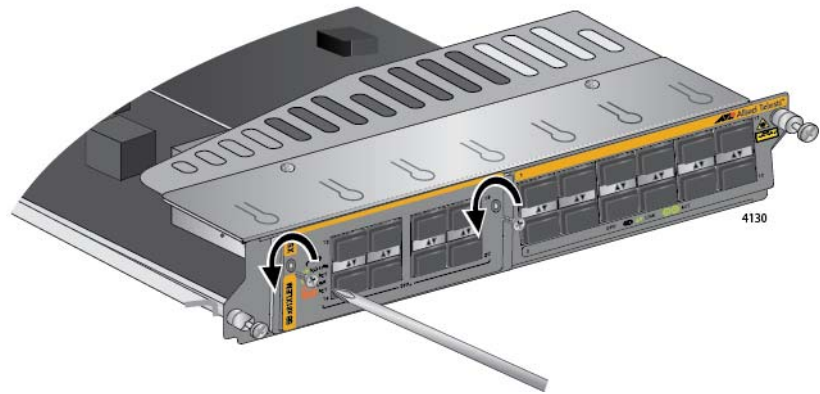

Figure 178. Removing the Screws from the Expansion Module
3. With a Phillips-head screwdriver, remove the two screws that secure the expansion module to the line card. Refer to Figure 178 on page 290.